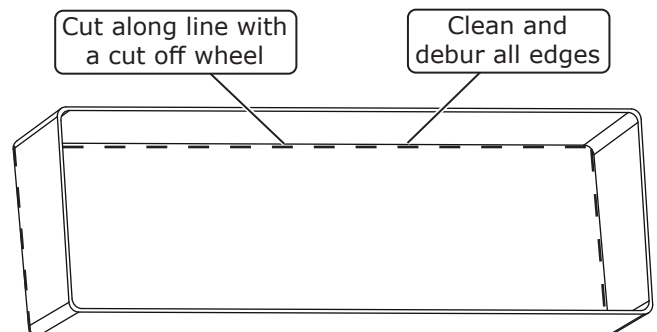

Figure 4
3. Remove the template and cut along the line with a cut off wheel (See Figure 4, below).
4. Clean and debur all the edges (See Figure 4, below).